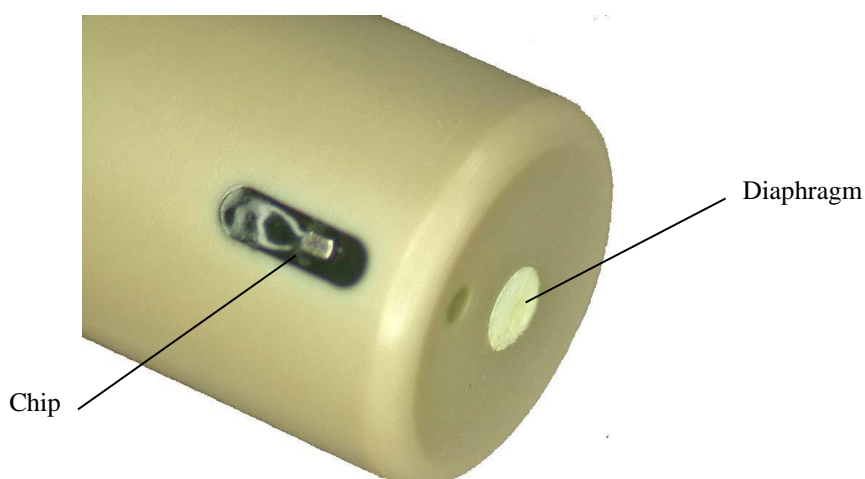

Figure 9-1. Tip of the CS526 probe
2. Scrub the surface of the chip and the diaphragm (Figure 9-1) with a soft toothbrush and water with a mild detergent (see Caution).